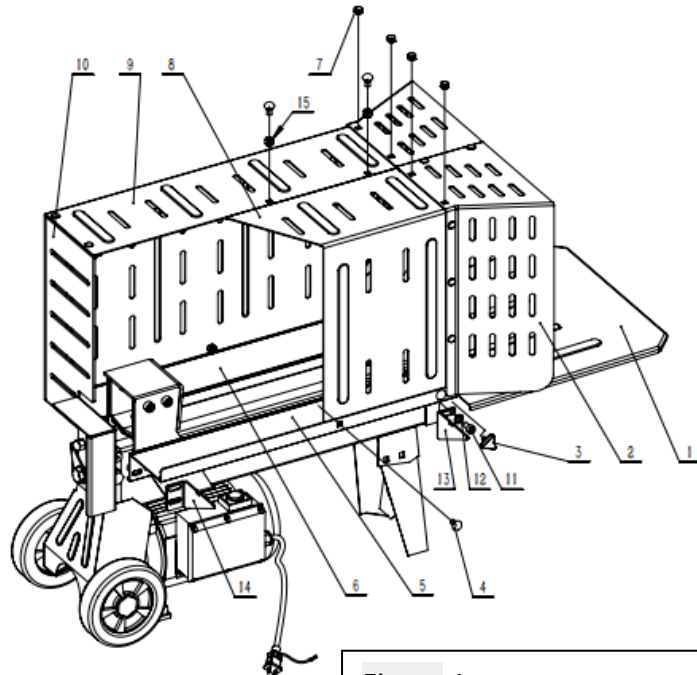

Figure 1
- See Figures 1, 2, and 3 for illustration.